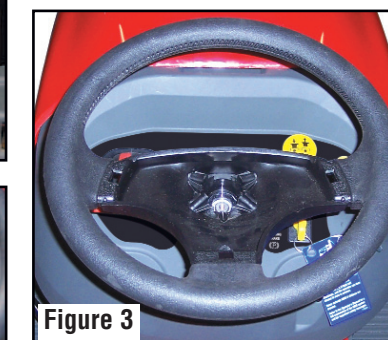

Figure 3
- Install the steering wheel (Figure 3) onto the steering shaft, making sure the steering wheel is aligned straight.